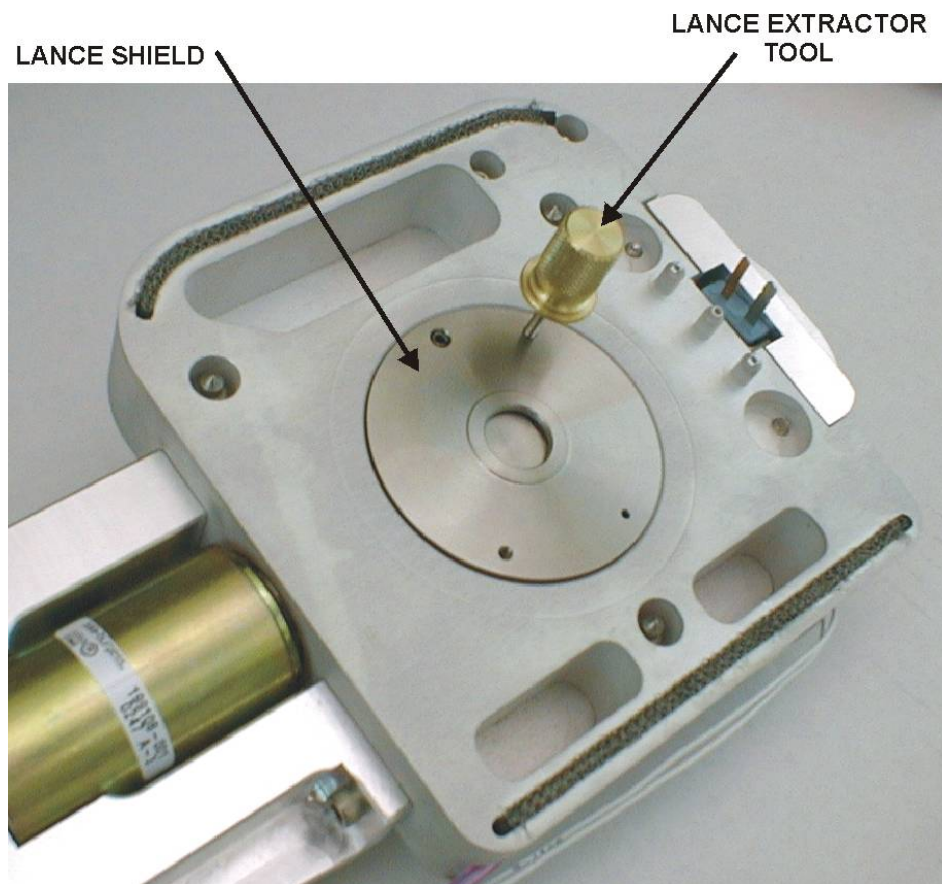

Figure 6-20
4. Clean the inner surface of the slide block and piston, Figure 6-20, page 6-36.
5. Clean and inspect the o-ring on the coupling block, Figure 6-20, page 6-36.